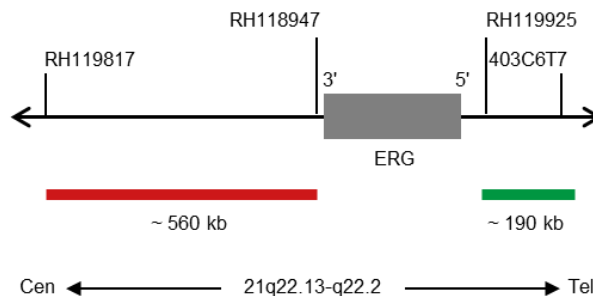

Fig. 1: SPEC ERG Probe map (not to scale)
- Digoxigenin-labeled polynucleotides (~0.50 ng/ μ l), which target sequences mapping in 21q22.2* (chr21:40,078,039-40,269,979) distal to the ERG breakpoint region (see Fig. 1).
- Dinitrophenyl-labeled polynucleotides (~0.75 ng/ μ l), which target sequences mapping in 21q22.13- 21q22.2* (chr21:39,171,790-39,733,849) proximal to the ERG breakpoint region (see Fig. 1).